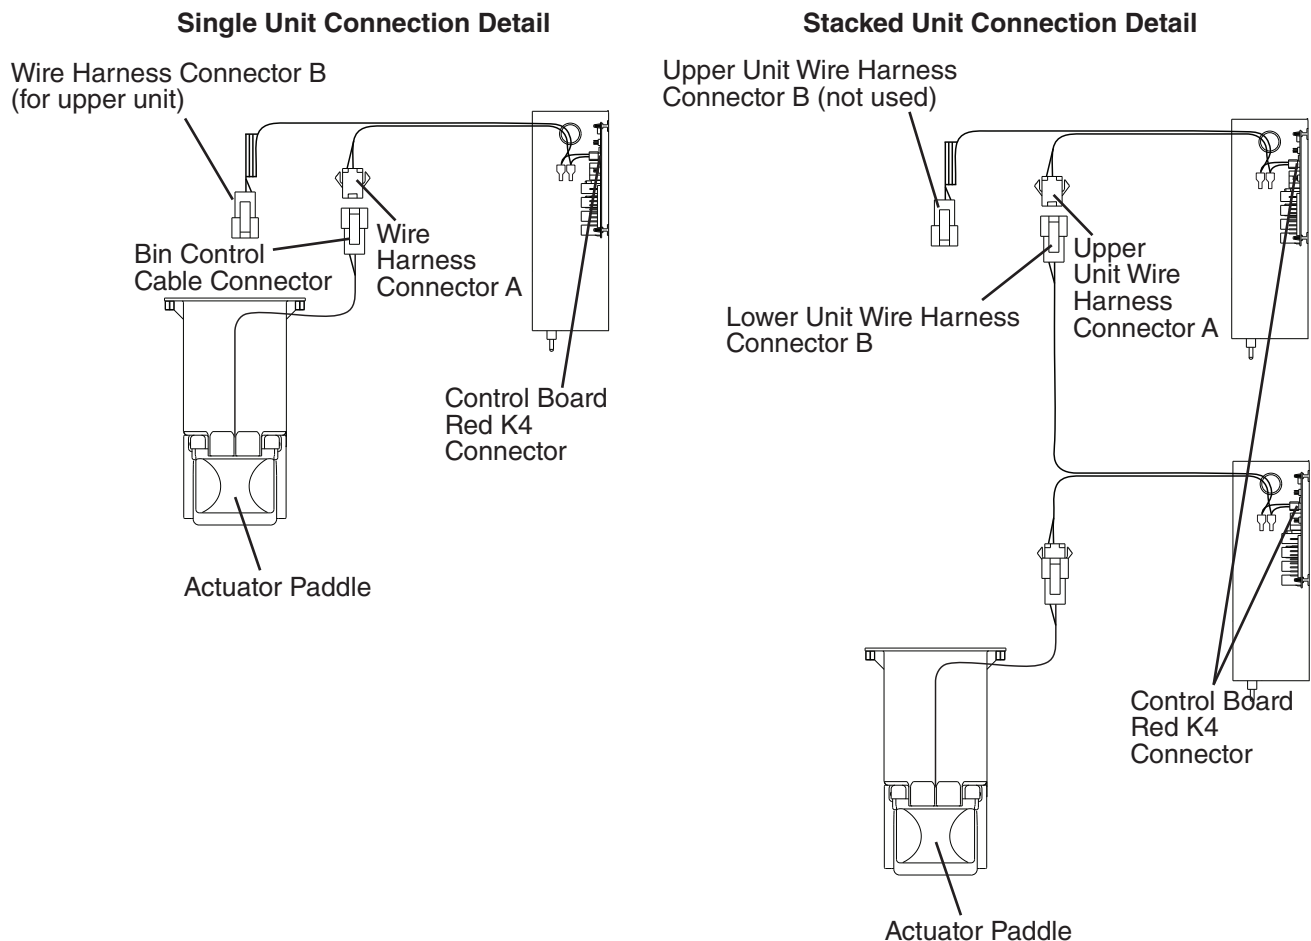

Fig. 1
- 4) Check bin control cable and wire harness connections. See Fig. 1.